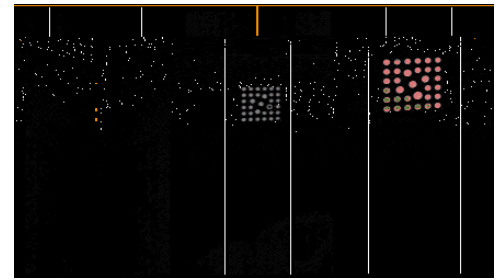

Figure 3-83
17. **Fine Adjustment** Using the adjustment screws indicated by the software, loosen the jam nuts and adjust the screws until the target image appears inside the vertical lines on both sides. (Figure 3-83) It may be necessary to use two screws to make this adjustment. After adjustments have been made tighten the jam nuts and click on **&ltOK>**.